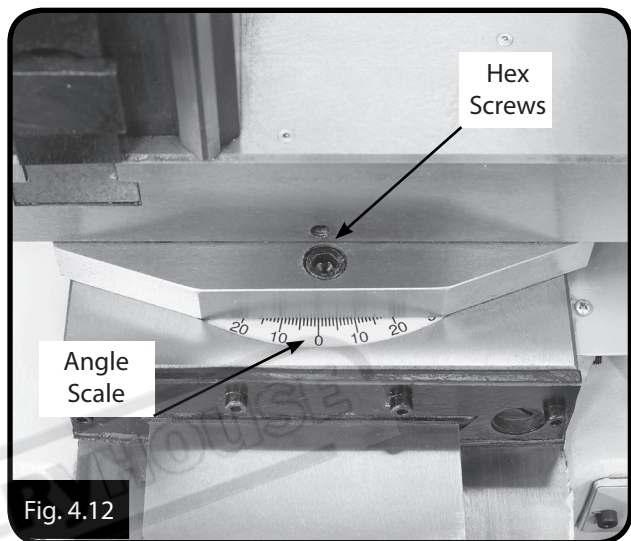

Fig. 4.12
1. Loosen the two hex screws at the base of the compound rest. (One at the front and one at the back of the compound slide.) (Fig 4.12).